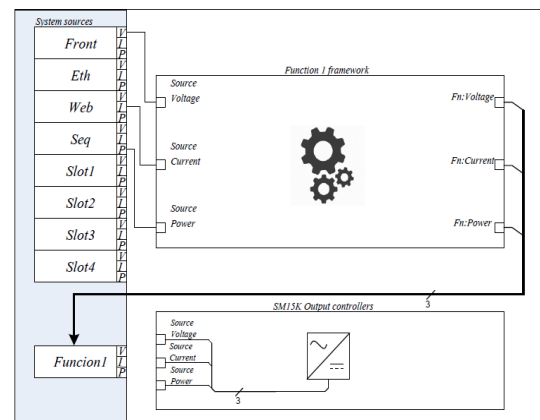

Figure 8.9: Function block diagram
- Integrated Function Blocks are functional integrated software blocks with predefined behavior that can be put in between a program source and the unit's output controllers. See Figure 8.9 for a diagram of the function block structure.